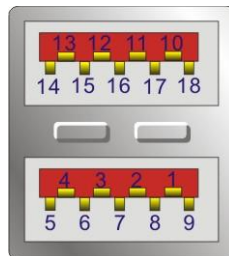

Figure 3-27: USB 3.2 Gen 2 Port Location
- CN Location:** See **Figure 3-27**